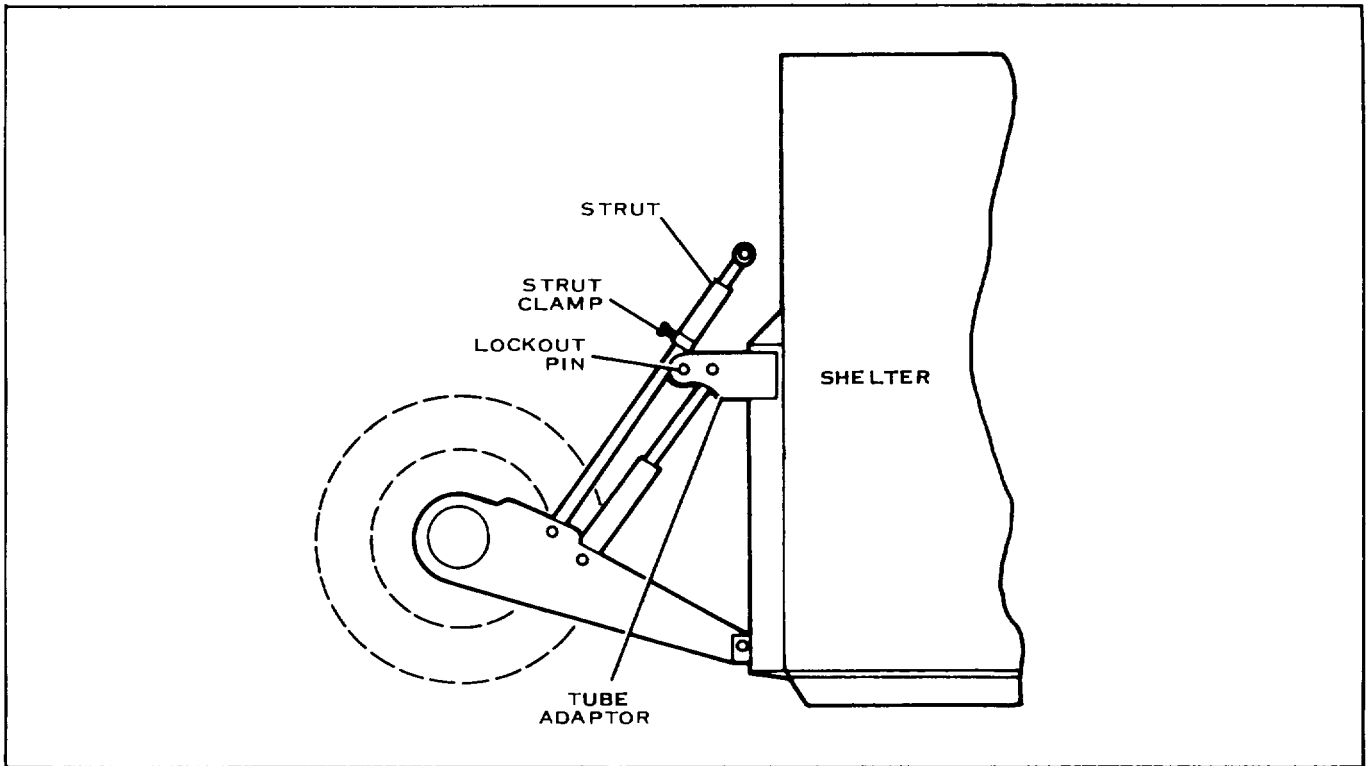

Figure 2-4. Mobilizer to Shelter Alignment
- b. With the shelter in down position, position front and rear mobilizers at opposite ends of the shelter with rear mobilizer at the main door end of the shelter (figure 2-4).